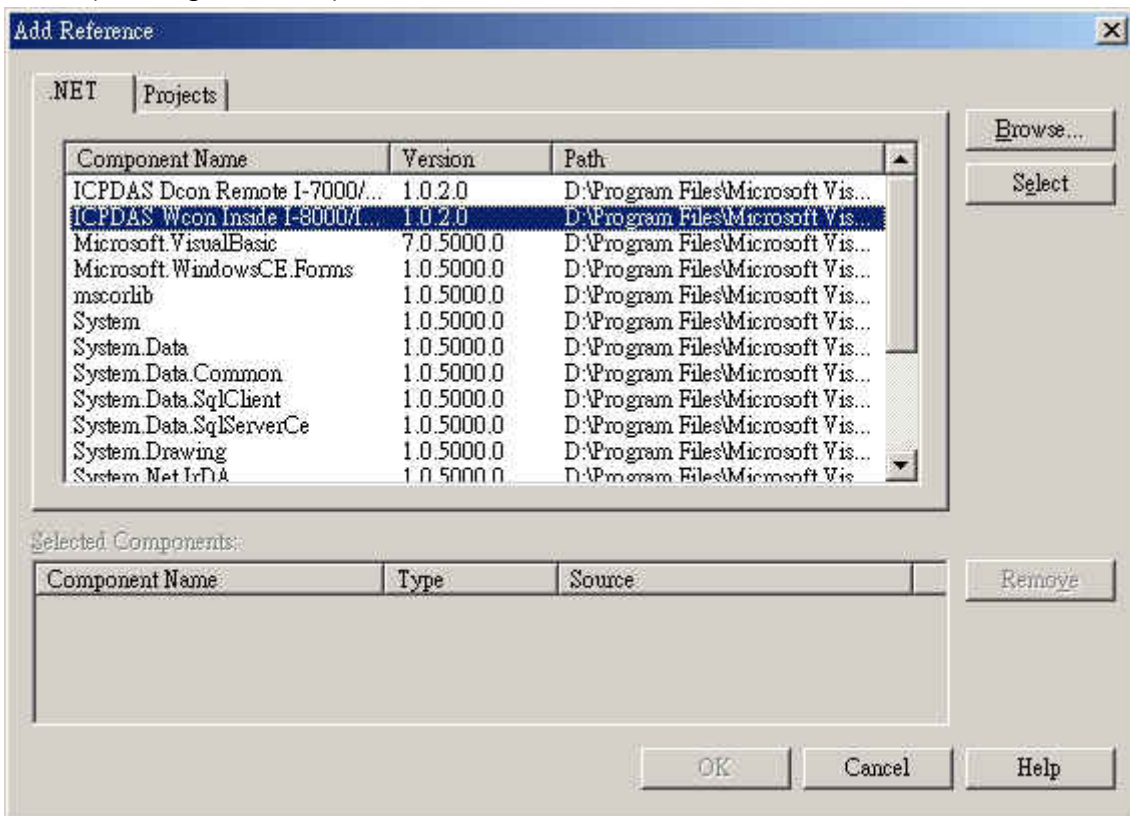

Fig. 5-2-4
1. Open the “**Add Reference**” dialog by choosing **Project**→**Add Reference** (see Figure 5-2-4).